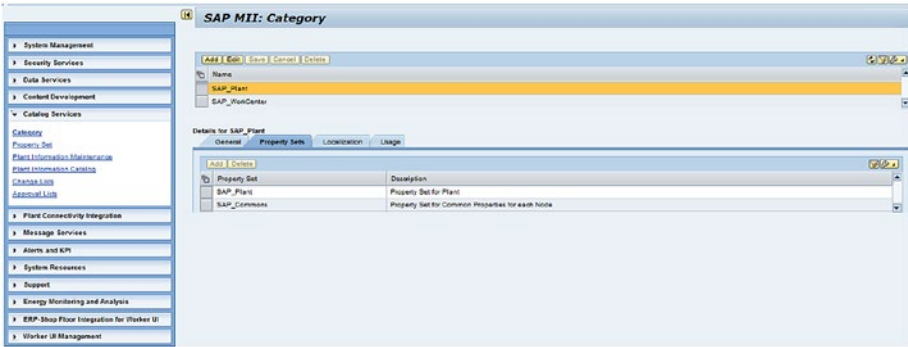

Figure 7-109. Category screen: Property Sets
1. From the Property Sets tab, you can add a property to the Category while adding a new category or editing an existing category. See Figure 7-109.